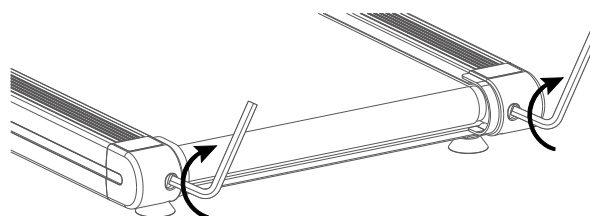

Figure 3
**3.2** Use the hex tool to turn both idler roller screws clockwise by 1/2 turn (refer to figure 3).